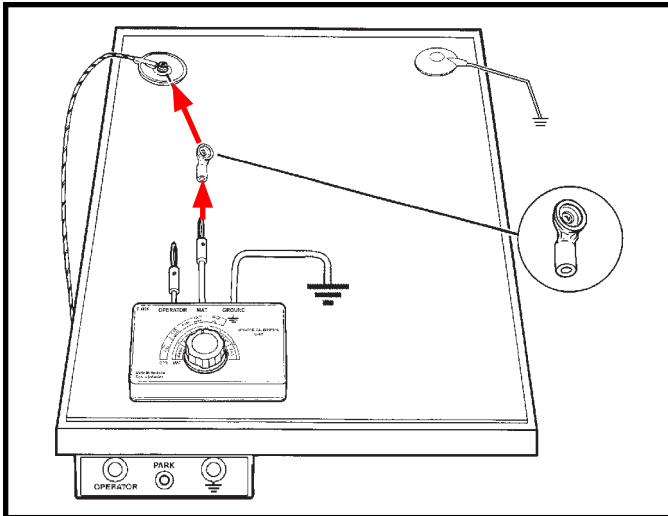

Figure 5. Connecting the MAT test lead from the Monitor Calibration Unit to the satellite remote
**Step 2:** Connect the included stacking snap to the banana plug labeled “MAT” on the Calibration Unit. Disconnect the satellite remote from its mat connection and re-install it to the Calibration Unit’s stacking snap (see Figure 5).